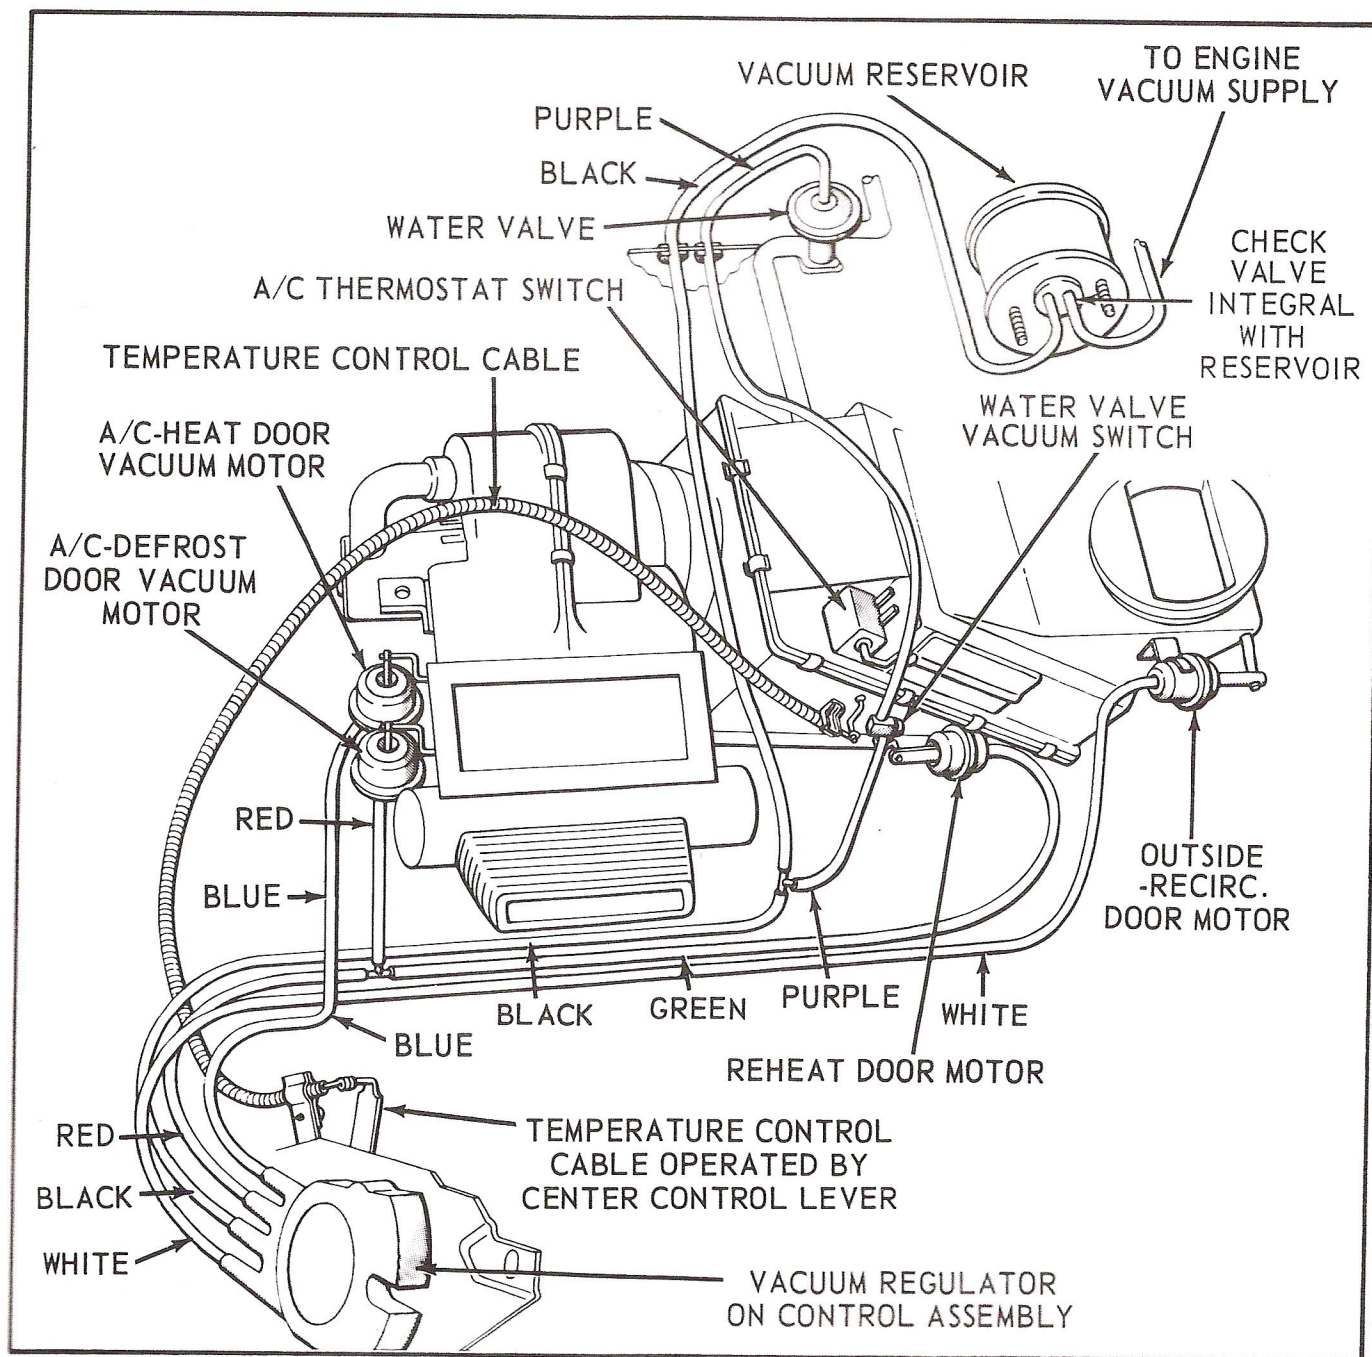

Fig. 36 - 1968 Cougar Heater-Air Conditioner
The heater-air conditioner vacuum control system consists of a vacuum supply reservoir, with an integral check valve, instrument panel control assembly, four vacuum motors, a water valve, a water valve vacuum switch, and the necessary hoses to connect the components. See Figure 36.
3. If no air door operation or vacuum readings are obtained, check the vacuum supply system. Check for vacuum supply at the instrument panel control assembly (Black hose figure 36). If vacuum is not available, check vacuum lines from supply tank to the control.